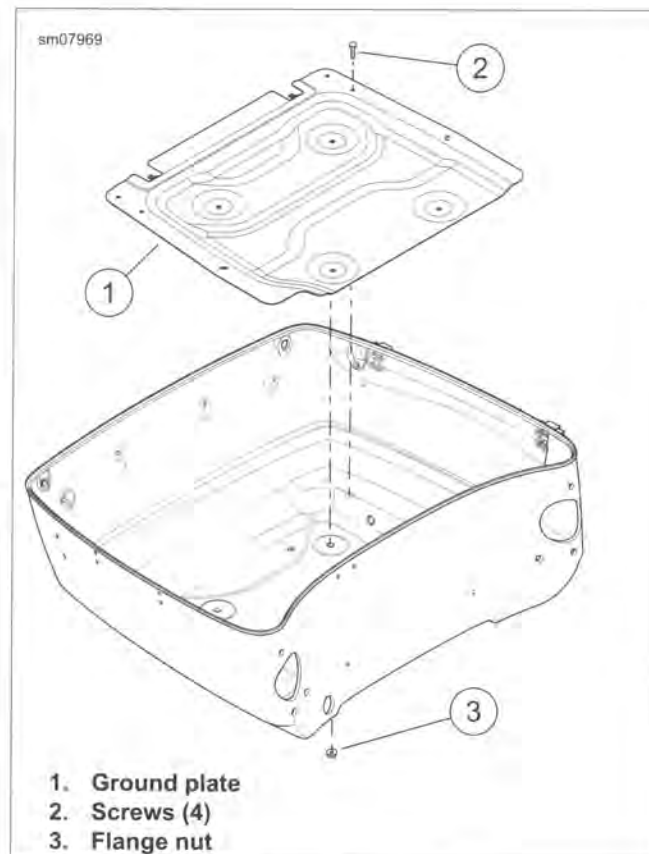

Figure 2-127. Ground Plate
See Figure 2-127. Screws (2) secure both the ground plate and marker lamps/trim strips.
3. Remove screws (2).
2. See Figure 2-127. Install ground plate (1). Install four flange nuts (3). Tighten to 60-72 in-lbs (6.8-8.1 Nm).